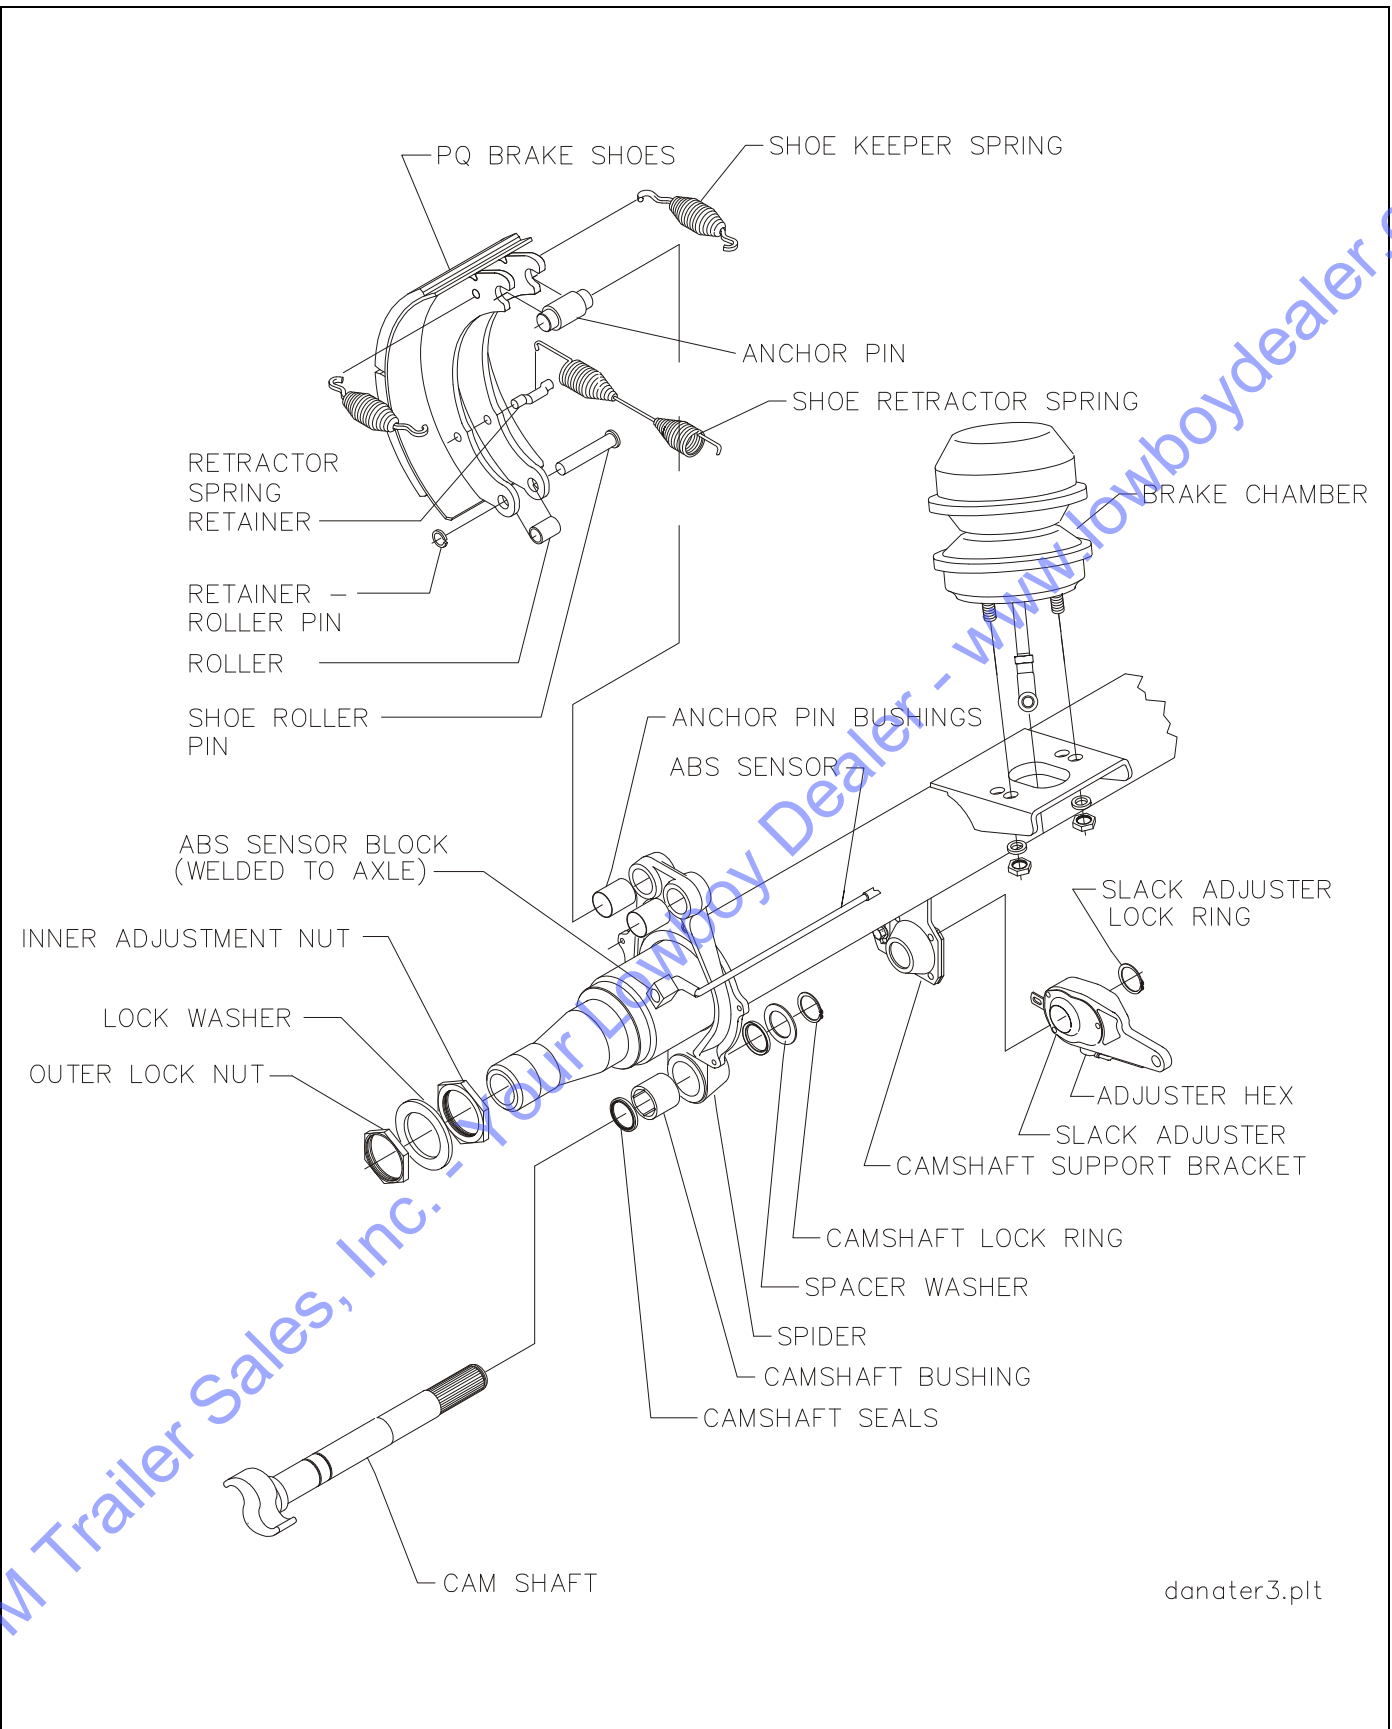

Figure 4-9: Axle and Brake Assembly
4. Disconnect the slack adjuster from the connecting rod by removing the clevis pin (**See Figure 4-9.**)
## Disassembly (See Figure 4-9.)